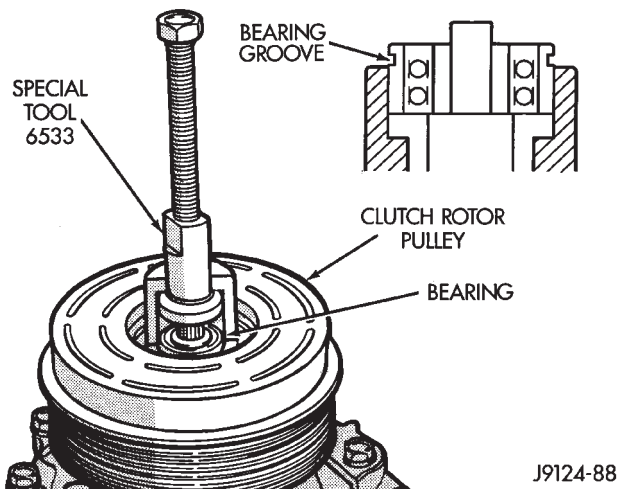

Fig. 6 Bearing Removal using Tool 6533
- (1) Remove the compressor from the mounting.
- (2) Remove the compressor nut and armature plate.
- (3) Remove the shaft bearing by using Shaft Bearing Removal/Installation Tool 6533 as follows:
- (a) With the collet on top of the bearing, insert the 2 jaws into the bearing groove (Fig. 6). Position the jaw retainer over the 2 jaws.
- (b) Thread in the screw (Fig. 6). Turn the screw until the bearing is moved up and loosened.